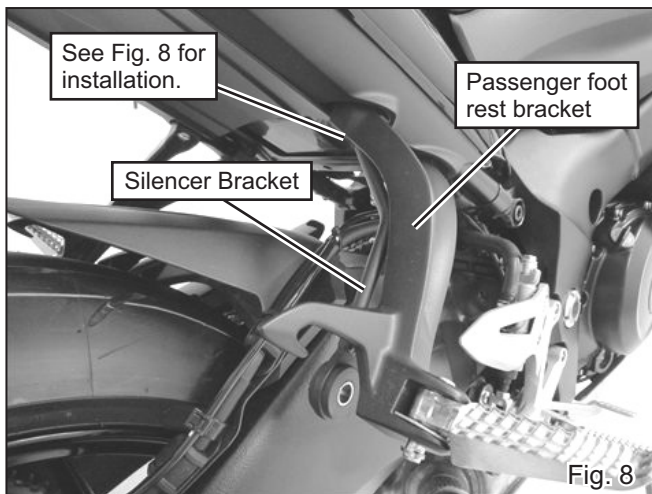

Fig. 8
- 10) Remove right side stock passenger foot rest bracket once, and mount Silencer Bracket and removed foot rest bracket together with 2 of Cap Bolt M8x30 (See Fig. 8 & 9). Tighten and torque Cap Bolt M8x30.